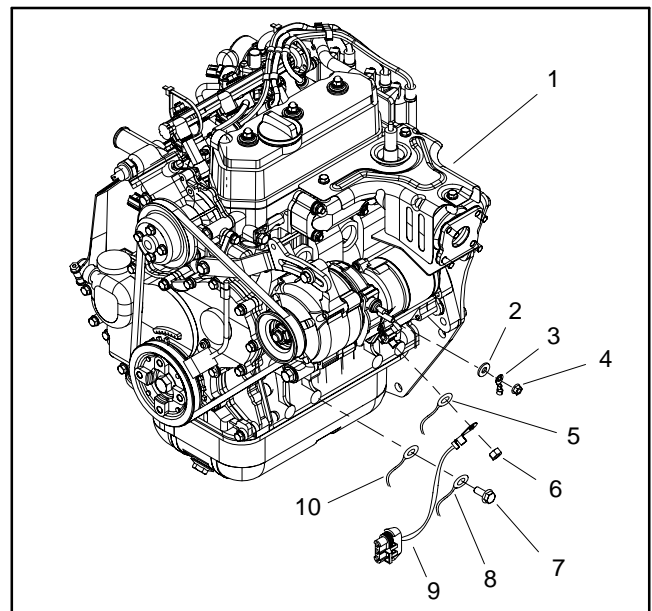

Figure 16
A. Battery cable and fusible link harness from starter solenoid stud (Fig. 16).
F. Negative battery cable and harness ground connector secured to engine mount (Fig. 16). Note location of ground connections and flange head screw for assembly purposes.
G. Six (6) harness wires from ignition coils.